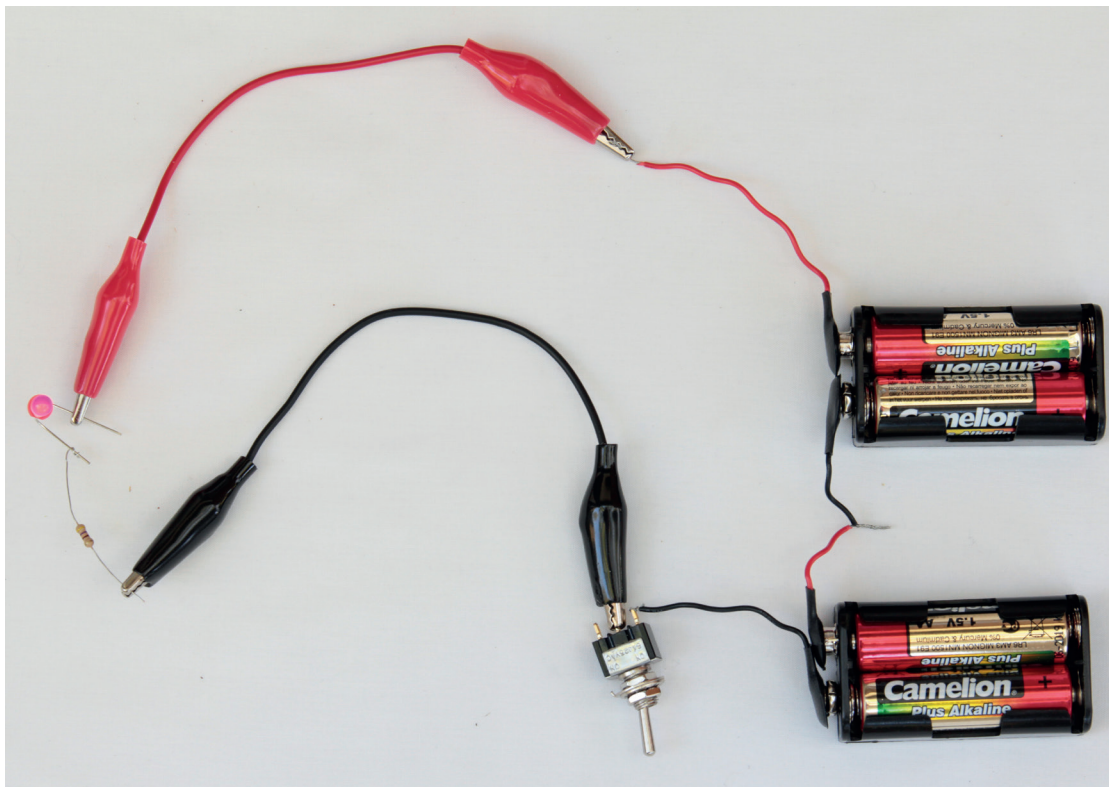

Figure 3: A circuit with an LED, a battery, a switch and a resistor
1. Draw a circuit diagram for Figure 3.